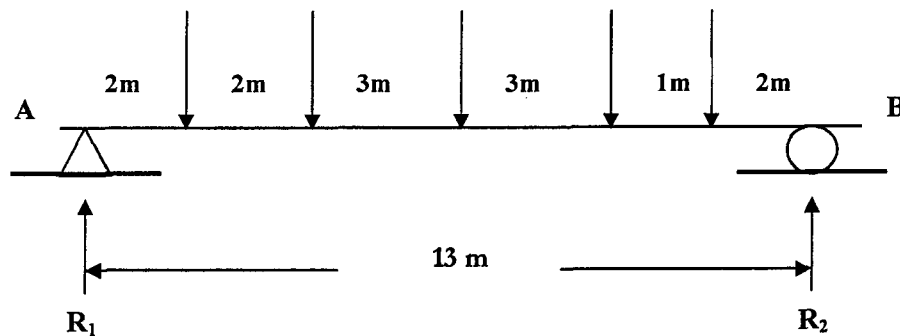

Figure 2.1/Rajah 2.1
- (b) Draw the shear force diagram for the beam shown in **Figure 2.1**.